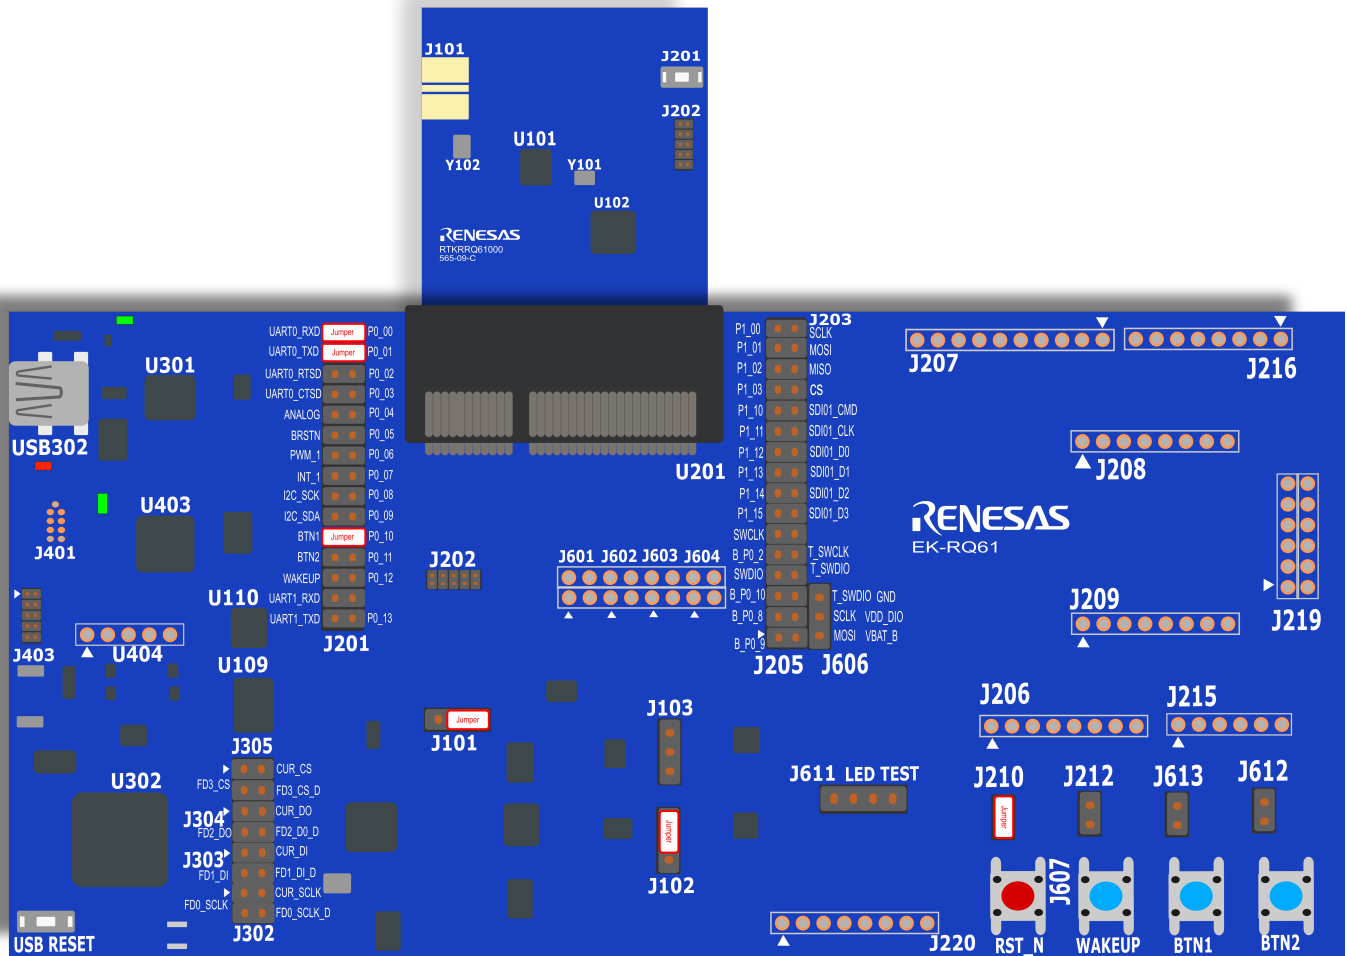

Figure 5. Configure factory reset button in the EVB for Wi-Fi Provisioning mode
1. Configure factory reset button, see Figure 5.